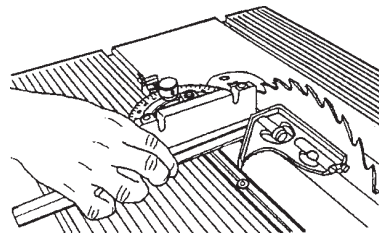

Figure B-82
52. Put the miter gauge in the right slot and place the combination square against the saw blade and miter gauge face, as seen in Figure B-82.